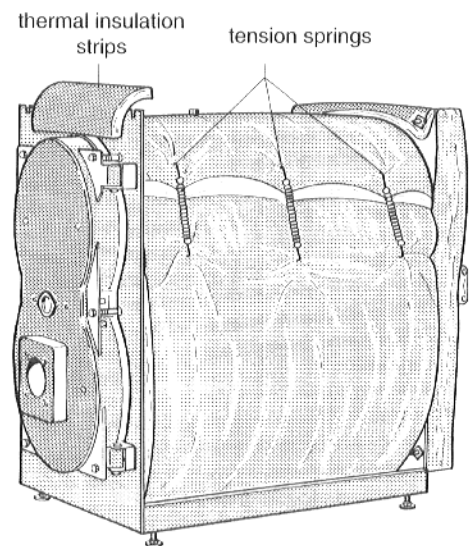

Fig. 6
- Push the thermal insulation blanket underneath the boiler body and lay it around the boiler body (Fig. 6).
- Fasten the thermal insulation blanket with three tension springs (Fig. 6).
- Place thermal insulation strips over the front boiler panel (Fig. 6).